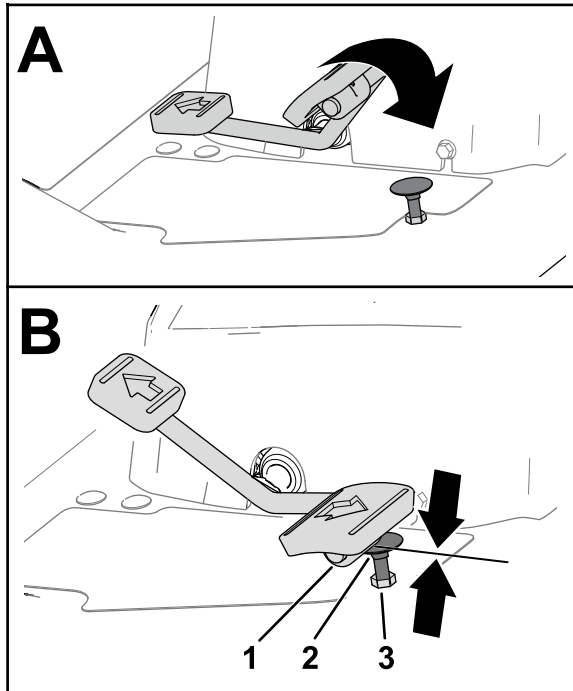
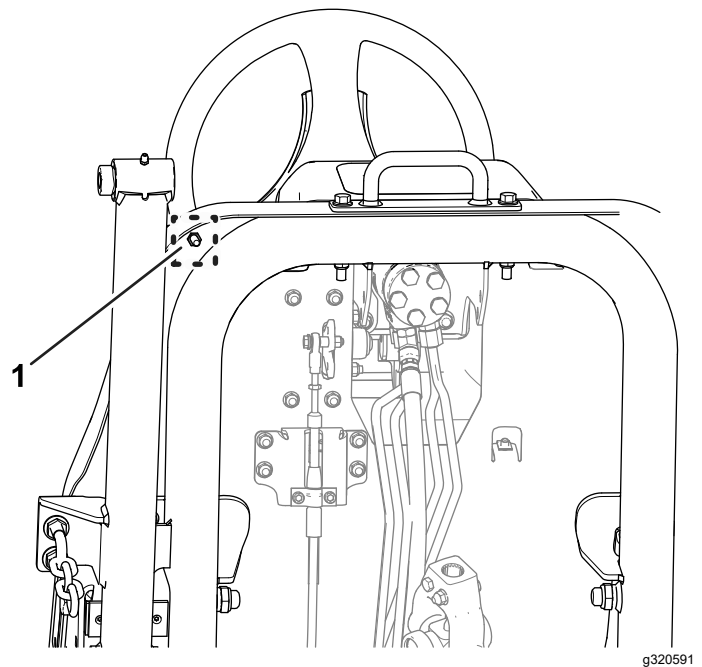

Figure 78
Figure 79
1. Move the traction pedal fully forward (Figure 78).
- A. Hold the traction-pedal stop (Figure 78) with a wrench.
- B. Loosen the jam nut at the bottom of the footrest plate (Figure 79).
- C. Move the traction pedal to the full forward position (Figure 78).
- D. While holding the traction-pedal stop, adjust the jam nut that is above the footrest plate (Figure 78) until the traction pedal makes contact with the stop.
- F. While holding the traction-pedal stop, torque the jam nut at the bottom of the footrest plate (Figure 78 and Figure 79) to 37 to 45 N·m (27 to 33 ft·lb).